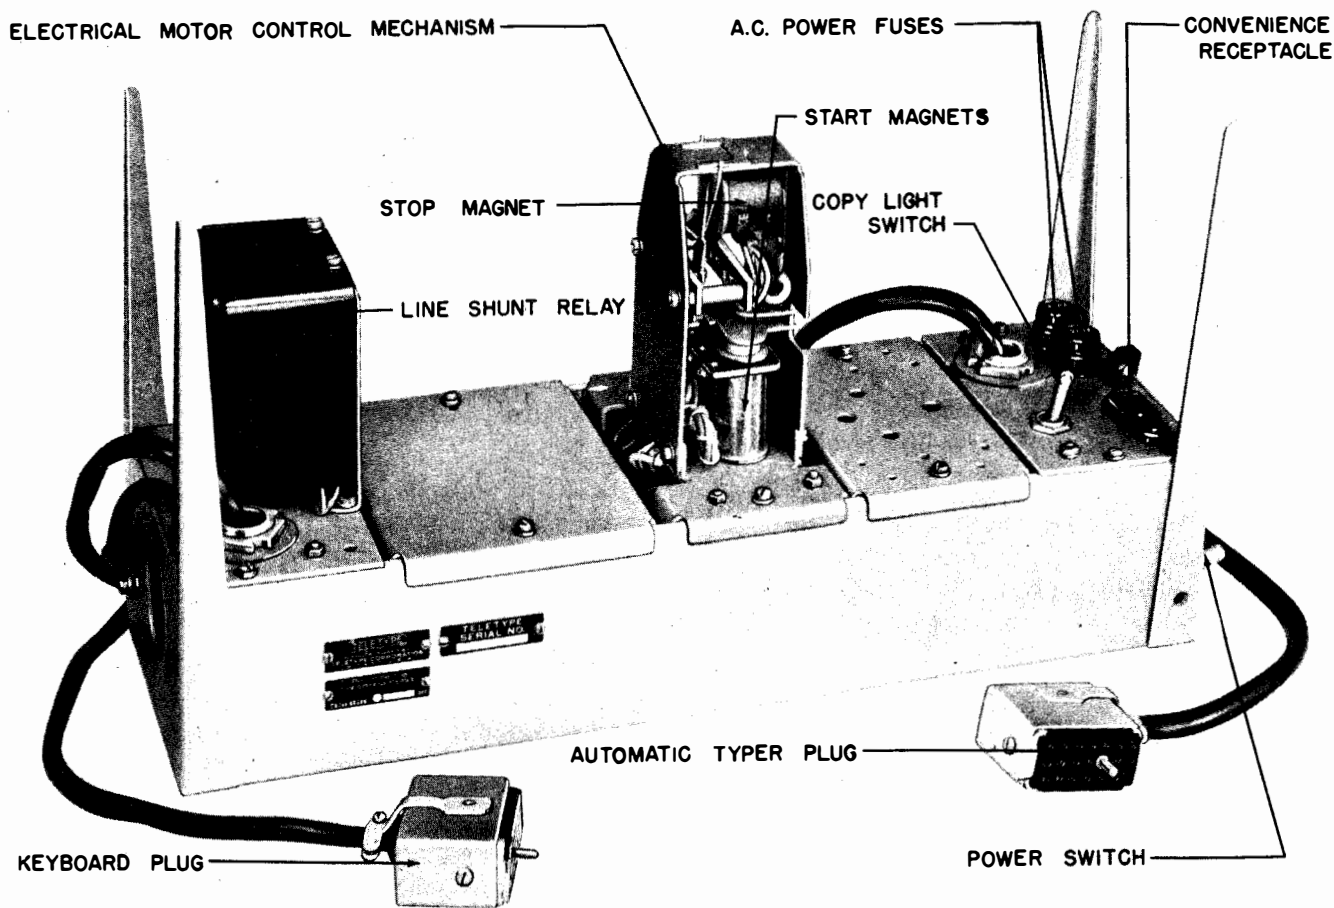

Figure 4-3. Power Distribution Panel SB-154A/UG
Controls which are frequently used are external to the Cabinet while those infrequently used are located on the Power Distribution Panel (figure 4-3) within the Cabinet, and on the inside of the cabinet dome (figure 1-12). Make sure that the cables from the Power Distribution Panel are plugged into their respective receptacles on the Automatic Typer and Keyboard.
b. The POWER SWITCH (figure 4-3), when thrown to the upper position, applies power to the Teletypewriter and likewise to a Rectifier when used.